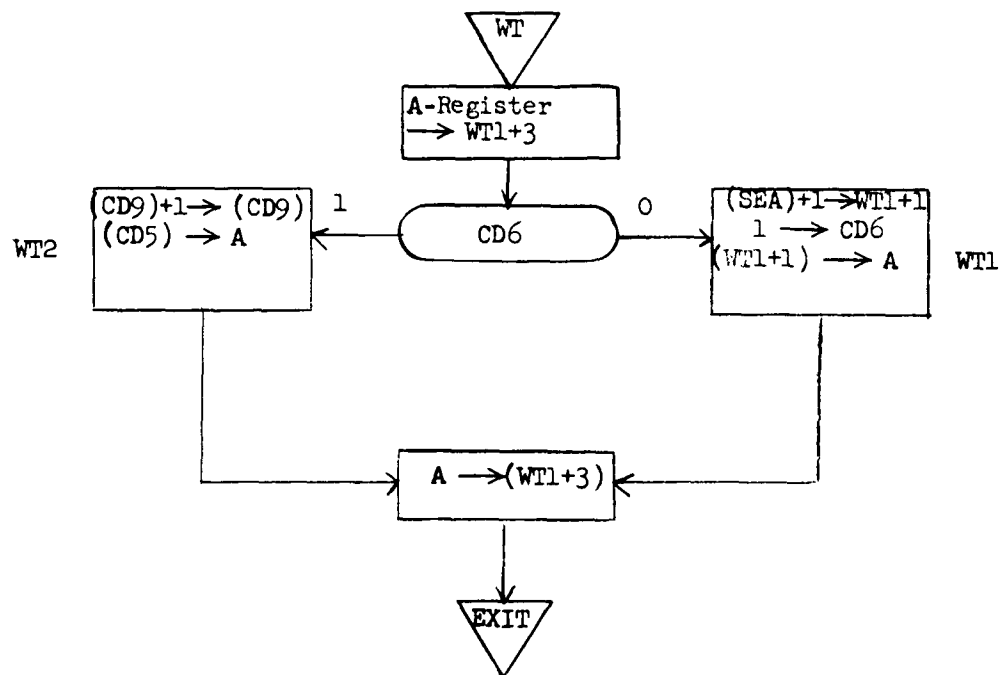

Figure 7.25 WT
7.3.7.2 WT Subroutine (Figure 7.25)